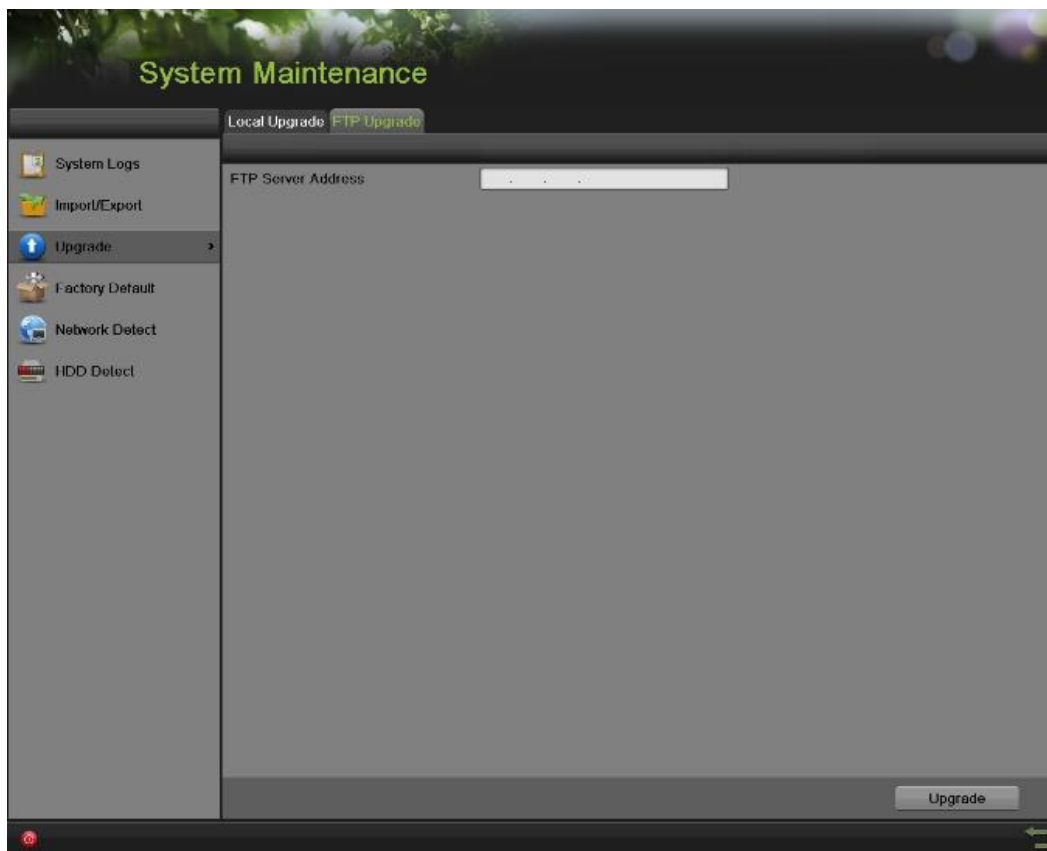

Figure 213 FTP Upgrade Menu
2. Select the FTP Upgrade tab, as shown in **Figure 213**.